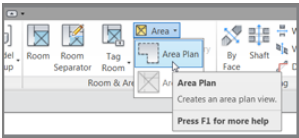

FIGURE 15.23: Clicking the Area Plan button
- 1. On the Room & Area panel of the Architecture tab, select Area and click the Area Plan button, as shown in Figure 15.23.